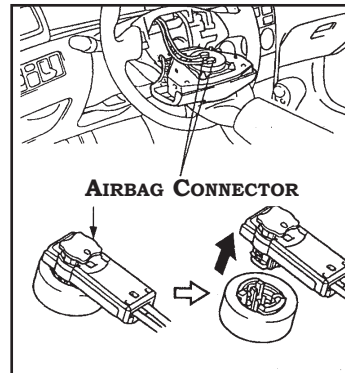

FIGURE 2
3. REMOVE GROUND TERMINAL AND DUMMY HORN/CRUISE CONNECTOR FROM STEERING WHEEL AND DISCARD. UTILIZE SMALL SCREWDRIVER TO REMOVE AIRBAG CONNECTORS AS ILLUSTRATED IN **FIGURE 2**.